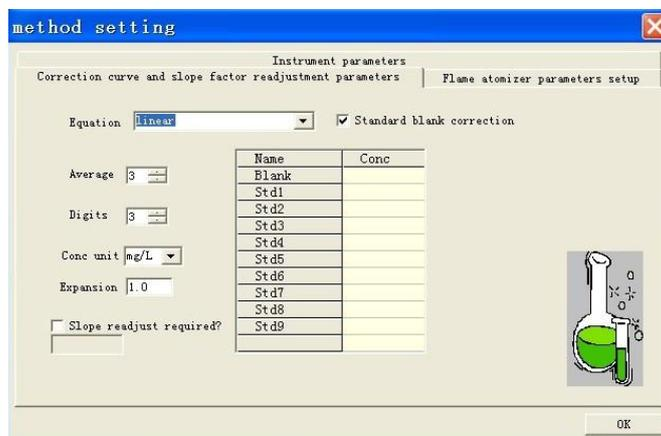

Figure 5-2
6. Press "Setting" to enter the "Correction curve and slope factor readjustment parameters" screen, as shown in Figure 5-2.